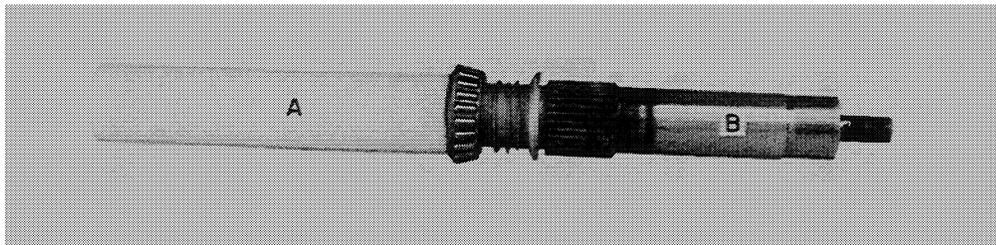

FIGURE 23
2. See A, Figure 23. This pipe is used to push the left and right bearings on the input shaft, B, Figure 23. Install as shown in Figure 2. This pipe can also be used to push the left bearing of the right rotor gearbox on the input shaft (TR™70 Style 2 gearbox) (only if the pipe has a maximum OD of 1 $\frac{3}{8}$ ").
Use a steel pipe, A, Figure 23, with a 1-17/32" (39 mm) minimum ID, approximately 2" (51 mm) OD and 7" (178 mm) long.